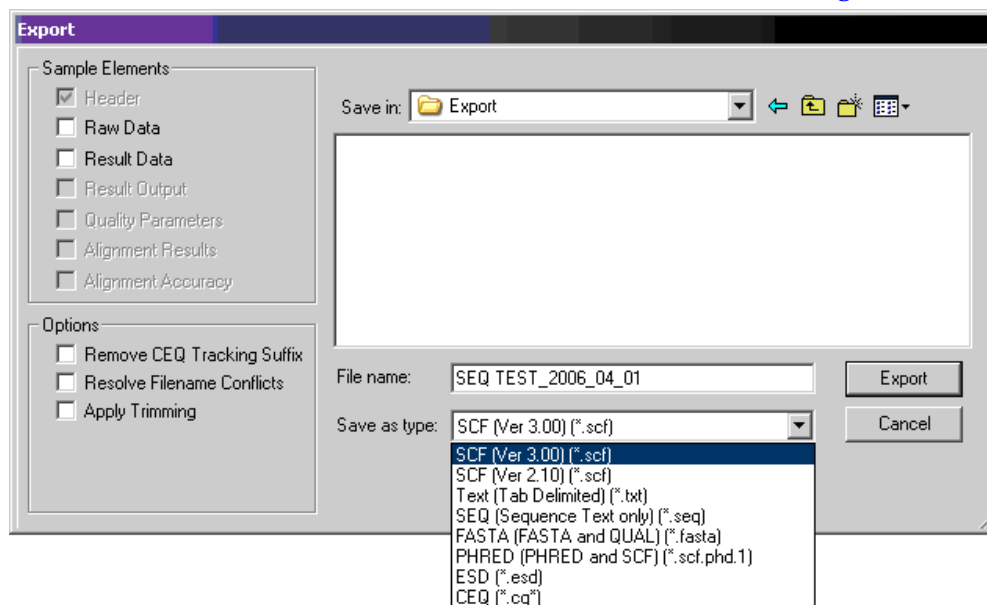

Figure 8.9 Sequence Analysis Export Dialog Box
5. Select the desired format in the **Save as type** field, as shown in Figure 8.9.